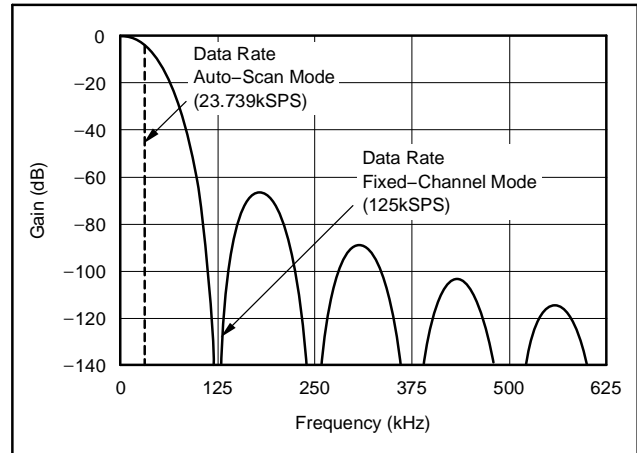
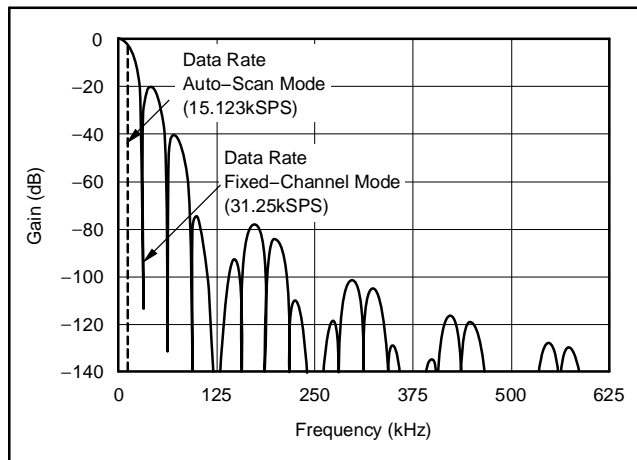
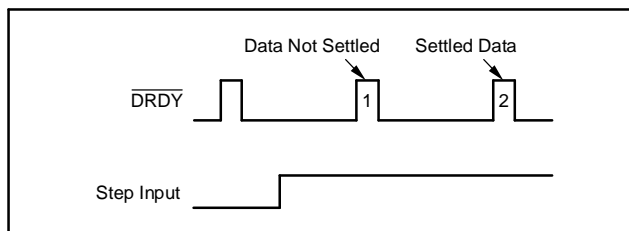

Figure 42. Frequency Response, DRATE[1:0] = 11
Figure 43. Frequency Response, DRATE[1:0] = 10
**Figure 44. Frequency Response Out to 16MHz**
The low-pass filter has notches (or zeros) at the data output rate and multiples thereof. The  $\text{sinc}^5$  part of the filter produces wide notches at  $f_{CLK}/128$  and multiples thereof. At these frequencies, the filter has zero gain. Figure 42 shows the response with no post averaging. Note that in Auto-Scan mode, the data rate is reduced while retaining the same frequency response as in Fixed-Channel mode.
Figure 43 shows the response with averaging set to 4 (DRATE[1:0] = 10). 4-reading, post-averaging produces three equally-spaced notches between each main notch of the  $\text{sinc}^5$  filter. The frequency response of DRATE[1:0] = 01 and 00 follow a similar pattern, but with 15 and 63 equally-spaced notches between the main  $\text{sinc}^5$  notches, respectively.
(2) Num\_Ave is the number of averages performed by the digital filter second stage.
(3) In Auto-Scan mode, the data rate listed is for a single channel; the effective data rate for multiple channels (on a per-channel basis) is the value shown in Figure 43 and Figure 46 divided by the number of active channels in a scan loop.
The digital filter low-pass characteristic repeats at multiples of the modulator rate of  $f_{CLK}/2$ . Figure 44 shows the response plotted out to 16MHz at the data rate of 125kSPS (Fixed-Channel mode). Notice how the responses near DC, 8MHz, and 16MHz are the same. The digital filter will attenuate high-frequency noise on the ADS1258 inputs up to the frequency where the response repeats. However, noise or frequency components present on the analog input where the response repeats will alias into the passband. For most applications, an anti-alias filter is recommended to remove the noise. A simple first-order input filter with a pole at 200kHz provides –34dB rejection at the first image frequency. Referring to Figure 42 and Figure 43, frequencies present on the analog input above the Nyquist rate (sample rate/2) are first attenuated by the digital filter and then will alias into the passband.